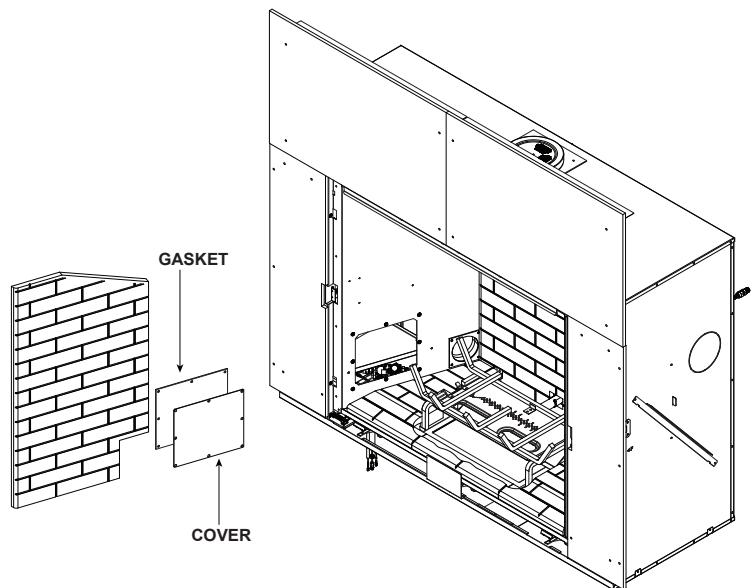
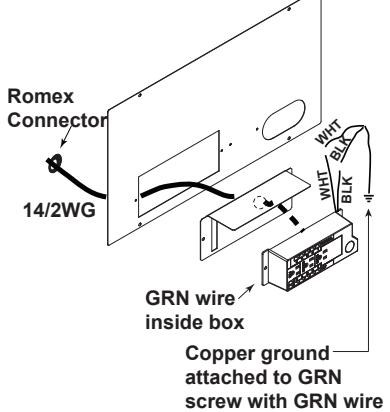

Figure 8.1 Junction Box Access
Figure 8.2 Junction Box Detail
- Remove two screws to release junction box bracket from the access plate. See Figure 3.2 and Figure 8.2.
- From inside remove one screw that secures junction box to junction box bracket. See Figure 8.1 and Figure 8.2.
- Pull the electrical wires from outside the appliance through the opening into the valve compartment and secure wires with a Romex connector. See Figure 8.2